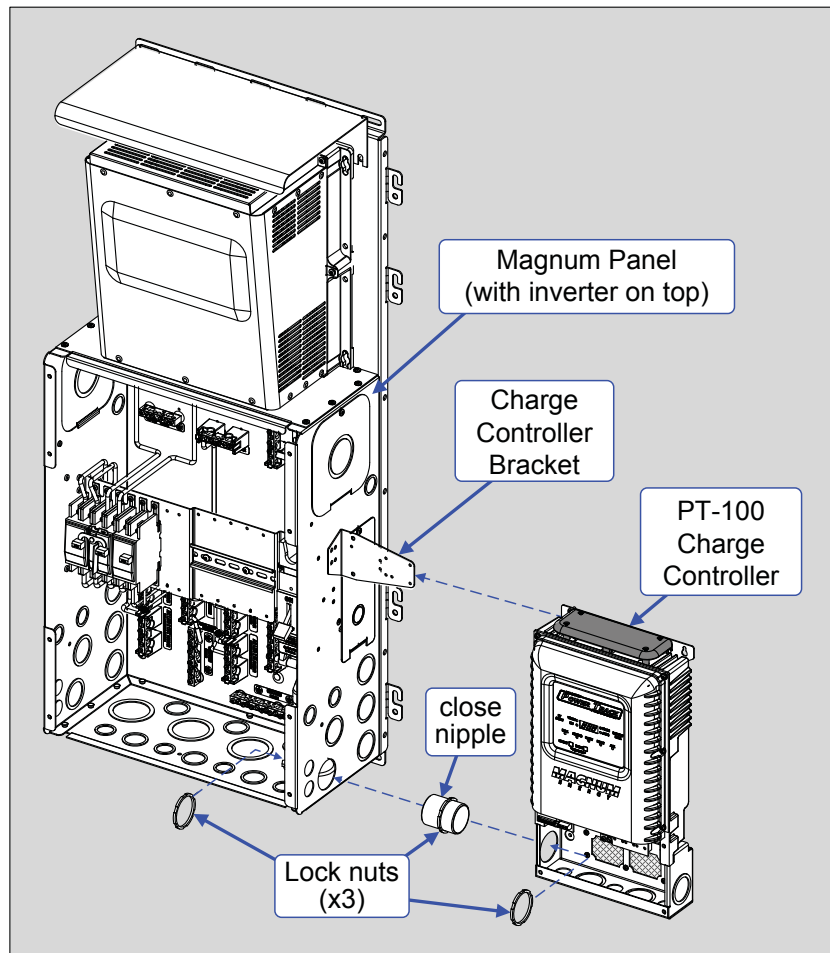
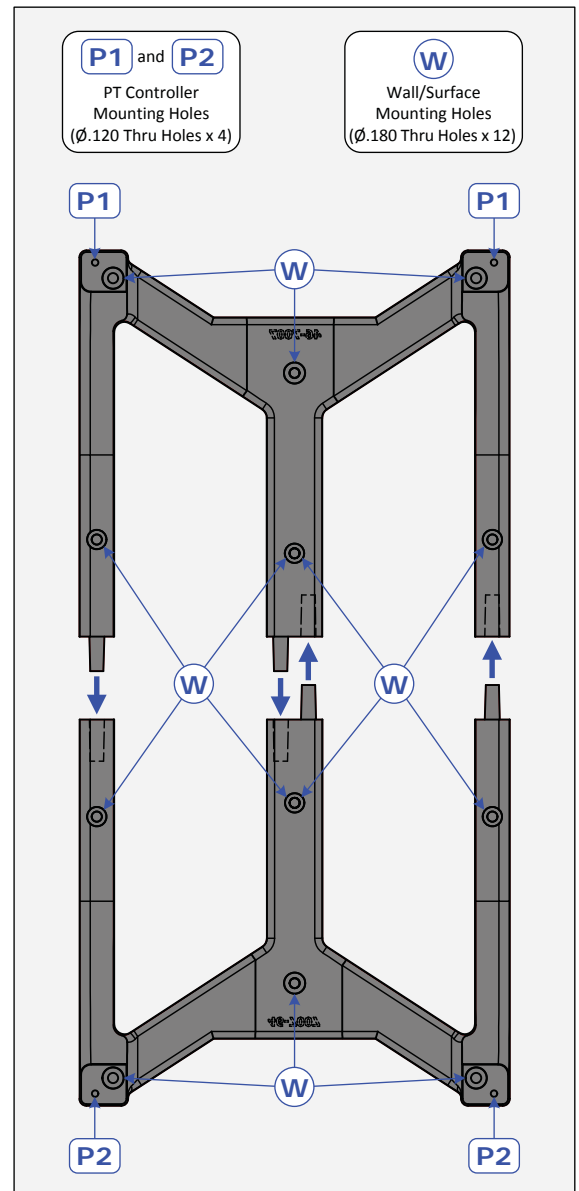
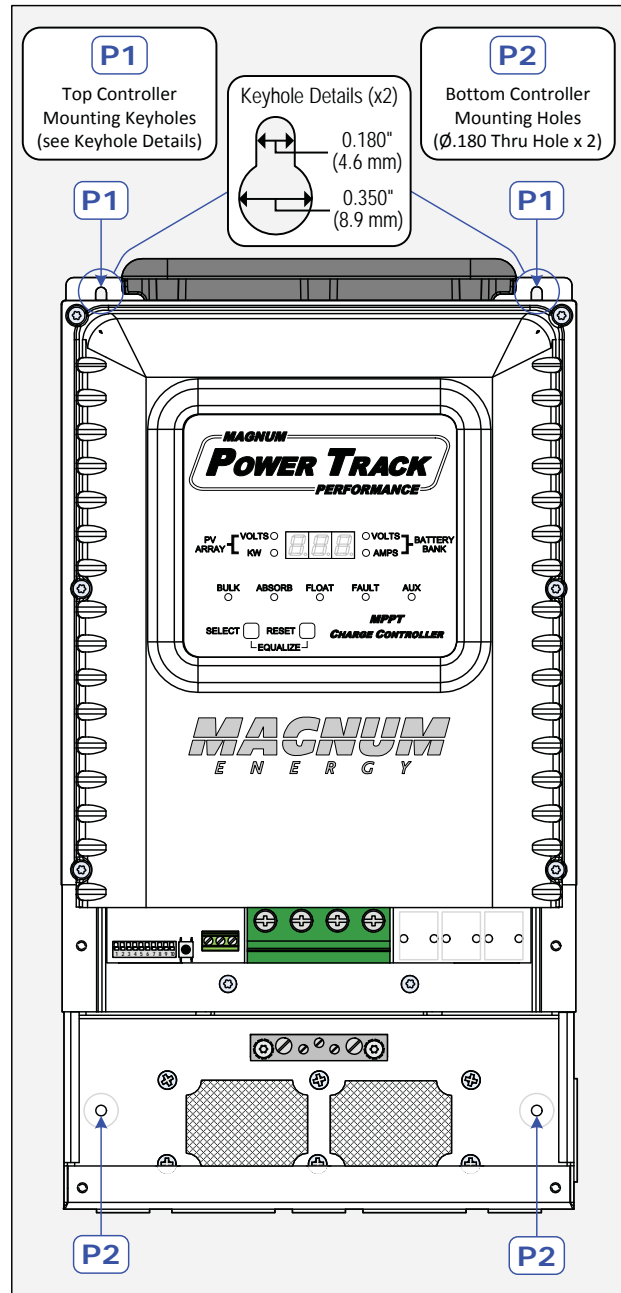

Figure 2-8, Mounting the PT-100 Controller on a Magnum Panel
Figure 2-10, Mounting Bracket Thru-hole Callouts
Figure 2-11, PT Controller Mounting Holes
The charge controller should not be installed in an area that allows dust, debris, insects or rodents to enter or block the controller's ventilation openings, or in an area without sufficient air flow around the PT's enclosure. There must be free air movement through the controller and over the controller's rear heatsink fins. This is done by mounting on the side of a Magnum Panel (see Figure 2-8 or by using the supplied wall-mounting bracket to mount against a wall (see Figure 2-10).
Two mounting methods are available for the PT-100. The first method allows the controller to be mounted next to a Magnum Panel (i.e., MP or MMP), aligning the conduit openings (see Figure 2-8). The second mounting method uses two brackets on the top and bottom of the controller for mounting directly on a wall and is normally used in a standalone installation (see Figure 2-10).
1. Use one of the bracket pieces for the bottom half of the bracket and hold it on the mounting surface at the desired height. While using a level to ensure it is horizontally and vertically straight (and the openings in the bracket are faced toward the top), insert two #8 sized screws into any of the wall mounting holes (designated as "W" in Figure 2-10).
2. Now that the bottom bracket is mounted, use the other bracket piece as the top half and insert it into the openings of the bottom bracket. While holding the top bracket in place, insert two #8 sized screws into any of the designated "W" wall mounting holes (see Figure 2-10).
Once the wall-mounting bracket is securely fastened to the vertical surface, you can now attach the PT charge controller. Refer to Figures 2-11 and 2-12.
1. Using two of the #8 Phillips head screws provided, insert the screws into the top two mounting holes of the wall-mounting bracket (designated as "P1" in Figure 2-10). Tighten these screws until there is a ¼" (6.4 mm) gap between the bracket's mounting hole surface and the screw head.
2. Hang the PT controller onto the wall-mounting bracket by placing the two keyhole openings of the PT controller (designated as "P1" in Figure 2-11) onto the two #8 screws—ensuring the controller is securely held in place before releasing.
3. Align the two mounting holes in the bottom of the PT controller (designated as "P2" in Figure 2-11) over the two bottom mounting holes on the bracket (designated as "P2" in Figure 2-10).